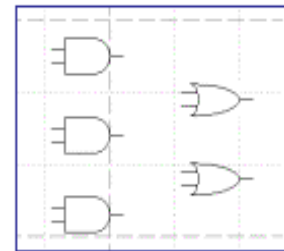

Fig. 5
- Move the mouse pointer to the *Design Window* and place two of these gates to the right of the AND gates. See Fig. 5